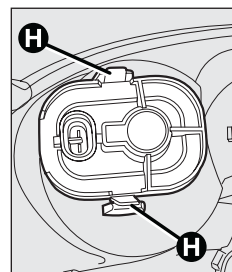

fig. 24
- to replace the rear fog light, release the clips **H**-fig. 24, remove the protection and replace the bayonet bulb.